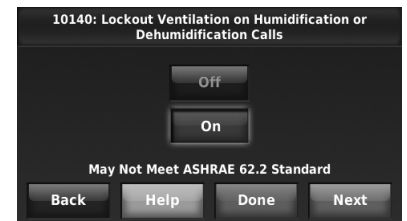

Fig. 257.
10. Select whether to lockout ventilation on humidification or dehumidification calls. This feature is used to help reach the user's desired humidity level by not allowing the ventilation equipment to run during a call for humidification or dehumidification. The thermostat will indicate whether this meets or may not meet the ASHRAE 62.2 Standard or the Percent On Time setting. See Fig. 257.